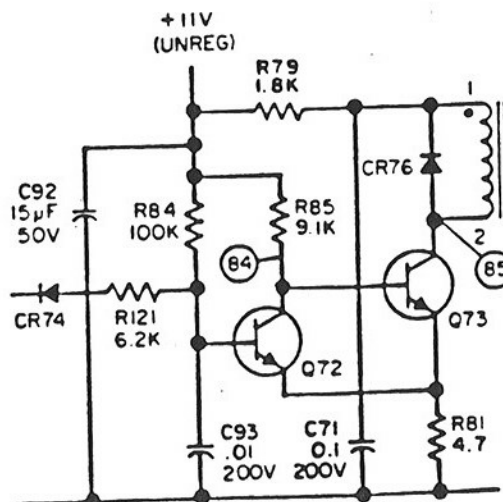

FIG 2-1 (SEE CHANGE 2)
- Capacitor C92(elect. 15 $\mu$ F, 50V, 0180-1634) is added as shown in Figure 2-1.
- C93(polyester, 0.01 $\mu$ F, 200V, 0160-0161) is added to the base circuit of Q72; see Fig. 2-1.
- Diode CR 75 in the Q72 base circuit has been deleted and is replaced with a 6.2k, 5%, 1/2W resistor (0686-6225) as shown in Fig. 2-1.
In Model 6260B only, change resistor AlR21 in the preregulator control circuit back to a diode (HP Part No. 1901-0033) designated CR75 as before, and connect it as it was connected prior to Change 2. CR75 is installed in the R121 pads on the board with its cathode physically oriented toward C93. See Figure 7-8 in the manual and Figure 2-1 on the change page.